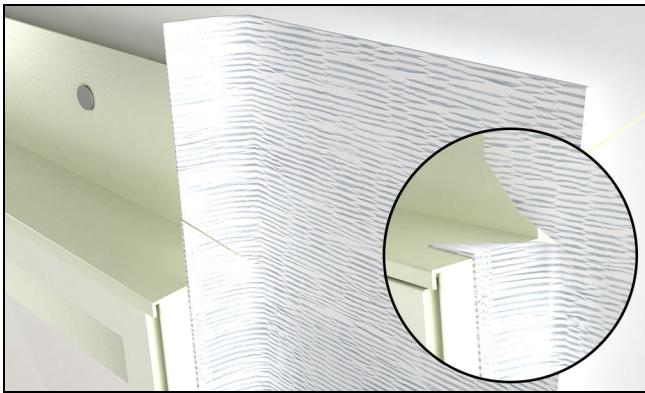

Figure 45
4. Lap vertical strips of adhesive flashing tape onto the unit and out over the WRB. Make small diagonal cuts at the head jamb as in Figure 45 to allow the membrane to fold back onto the exterior and frame.